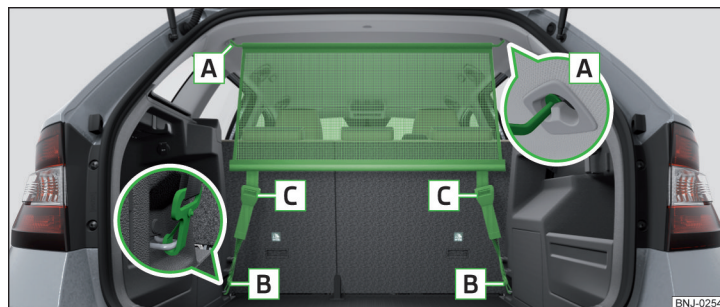

Fig. 98 Net partition behind the rear seats
- > First insert the rod into the mount **B** » Fig. 98 on one side and push it forwards. Insert the transverse rod into the mount **C** on the other side of the vehicle in the same way.